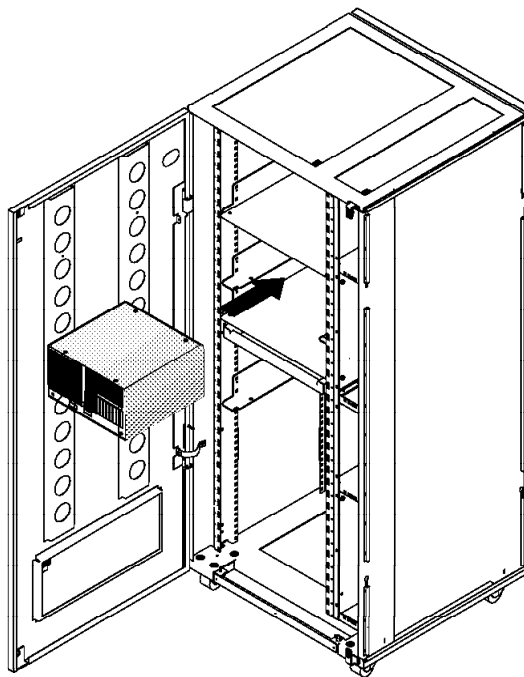

Figure 6. Installing the NNP-B Unit in the rack (Rear Side)
- ___ 1. Slide the NNP-B in the rack as shown after. (see Figure 6)